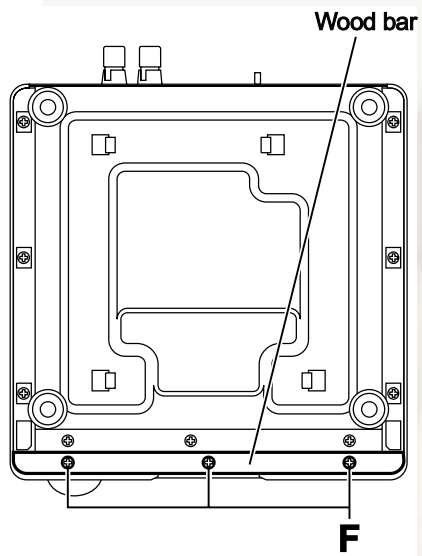

Fig.5
- (6) From the bottom side of the main body, remove the three screws **F** attaching the wood bar. (See Fig.5.)